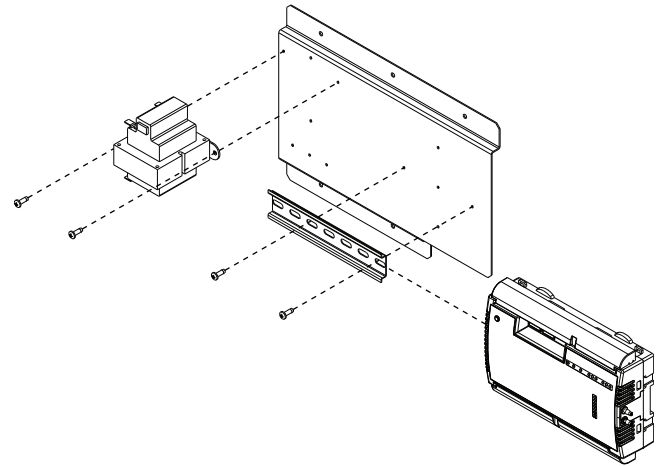

Fig. 2 — TruVu Transformer and TruVu Controller Mounting
1. Locate four No.8 screws, a 6-in. mounting rail, the TruVu Controller and the TruVu 24VAC Transformer (not included in Kit). Mount these items together. (See Fig. 2.)
IMPORTANT: Ensure the TruVu 24Vac transformer leads are installed as shown in Fig. 2, with the leads oriented to the left. This orientation is required for safety. Do not install the transformer in the opposite direction.